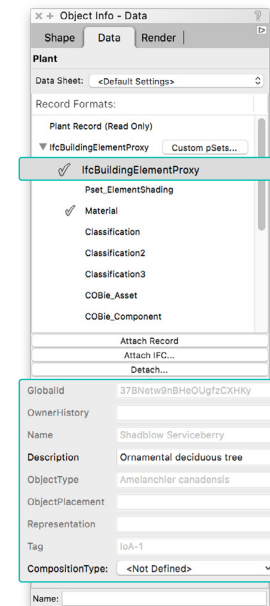

FIGURE 20: IFC data editing through the Object Info Palette
2. Click the **Data** pane in the Object Info palette. The assigned IFC entity type displays at the top of the palette (**Fig. 20**). All default property sets for the IFC entity display below the entity type name. Property sets in use will have a check mark to the left of the property set name.
4. Once the property set is added, the values for the parameters of the set displays below the buttons (**Fig. 20**). Some fields can be filled out directly. If the parameter field is grayed out and cannot be accessed, this indicates that the parameter is populated by either a predefined default mapping from an object parameter, or from a user-defined mapping (see the IFC Data Mapping Command section of this document).